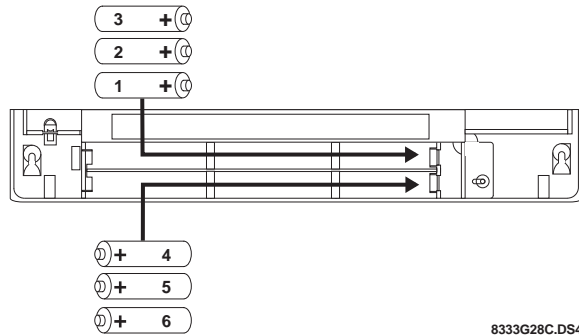

Figure 6. Battery Polarity and Order of Installation
- Insert appropriate new batteries in the order and direction shown in Figure 6.